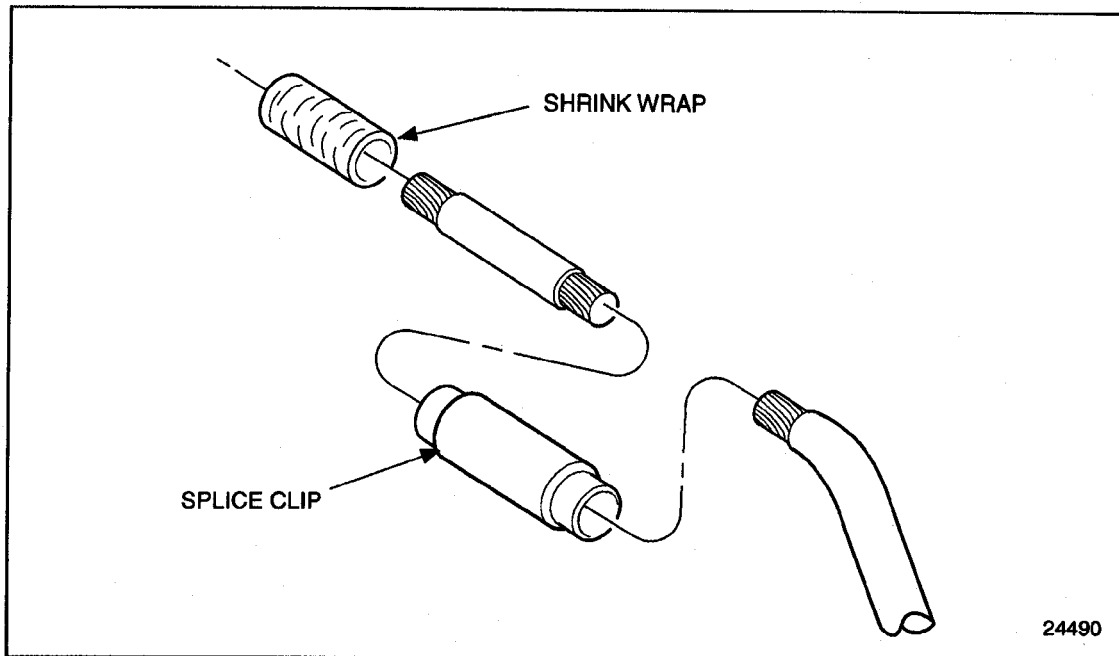

Figure 8-40 Spliced Wire
5. Insert the other wire into splice clip and crimp. See Figure 8-40.